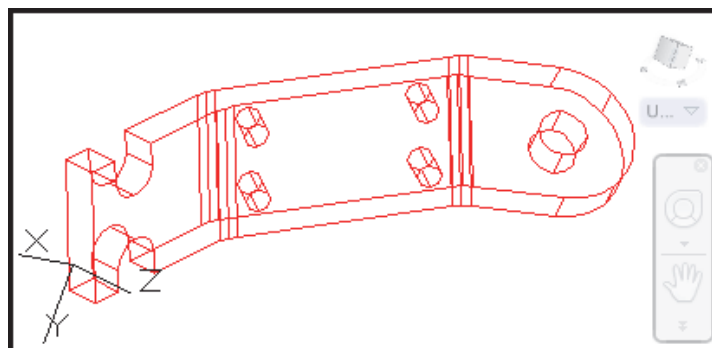

Figure 11–17
5. Use **3D Orbit** to display the model in the new viewport so that it is similar to that shown in Figure 11–17.